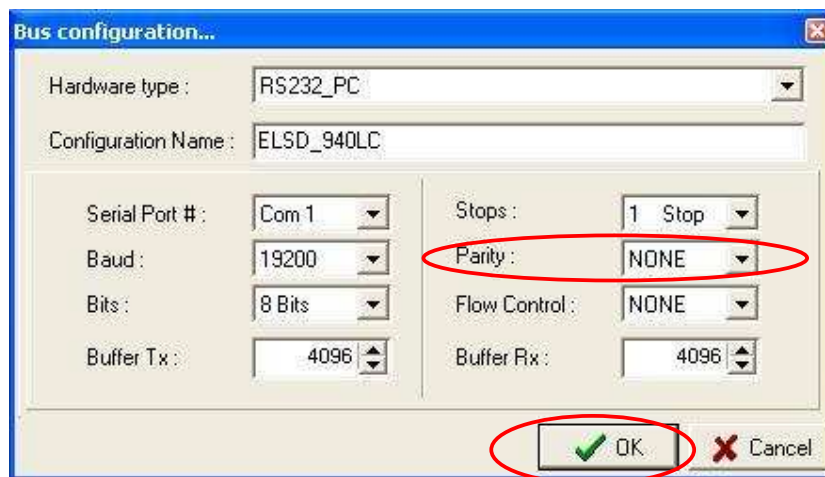

Figure 3: Setting Up the ELSD Configuration
2. The following window (Fig 3) should then appear. You can give the configuration name anything that you desire. For the purposes of this example let's call it ELSD_940LC.